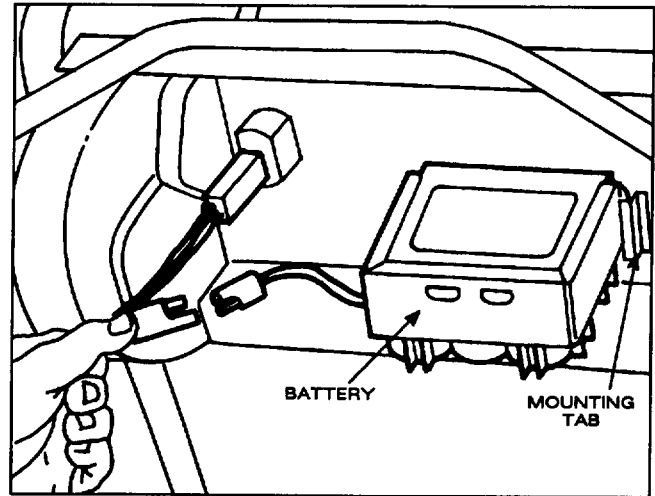

Figure 25
1. Stop engine and disconnect wire harness from battery terminal (Fig. 25).